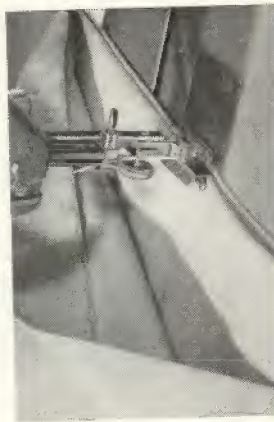

Fig. 34.
Perhaps you've just finished a dress and have only the hem left to complete. You think, maybe, that you ought to do this by hand so that it shows as little as possible? Well you don't have to, you know! Use your Husqvarna Automatic. If you fit a special blindstitching attachment plate S 15818 (Fig. 34) and pattern cam set D, you can sew a hem which is almost completely invisible on the right side. Both these attachments are available, at extra cost. Do it like this:
1. Insert pattern cam set D and fix blindstitching plate with presser foot screw (2, Fig. 1). The plate must be attached so that it covers the left part of the standard presser foot (Fig. 34).
3. Fold a hem and then turn it with the right sides of the material facing one upon the other. Allow the edge of the hem to project about $\frac{1}{8}$ in. (3 mm) beyond the fold (see Fig. 34).